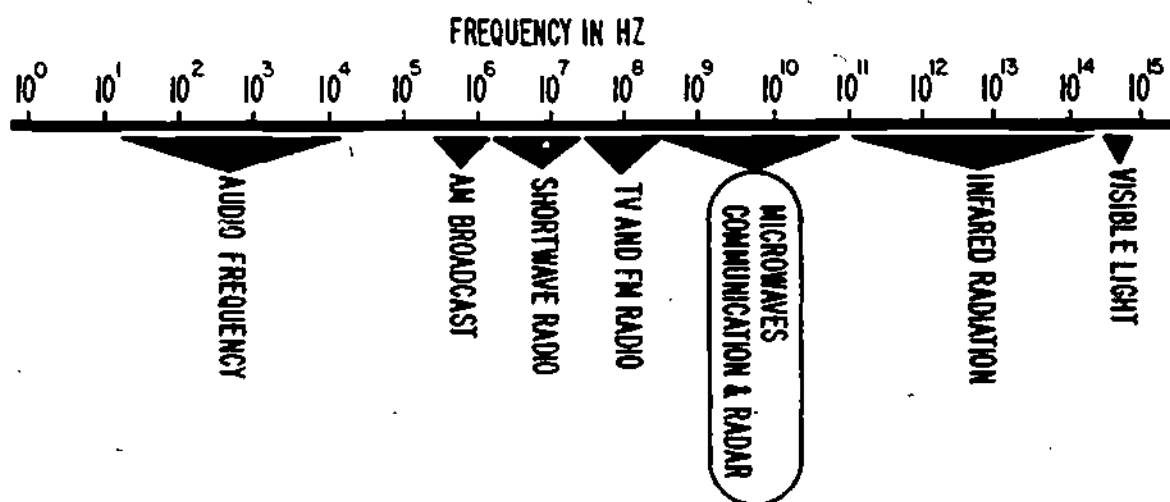

Figure 14
16. The coax and lumped constant delay lines will not operate properly when the frequency of the input signal reaches or exceeds the microwave range used by radar and some communications equipment. Figure 14 shows where the microwave frequency range is in the frequency spectrum.